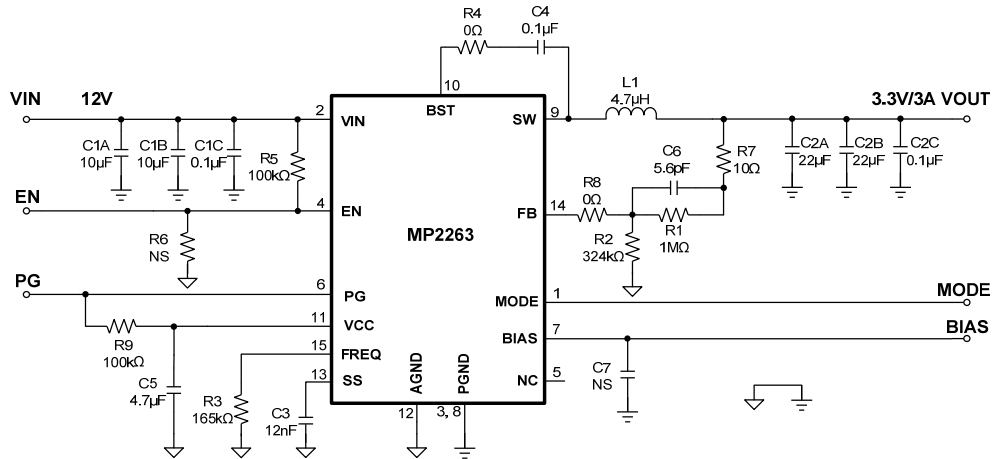

Figure 8: $V_{IN} = 12V$, $V_{OUT} = 3.3V$
- 8) The recommended layout is based on Figure 8.
The detailed application schematic is shown in Figure 8. The typical performance and circuit waveforms are shown in the Typical Performance Characteristics section. For additional device applications, please refer to the related evaluation board datasheets.